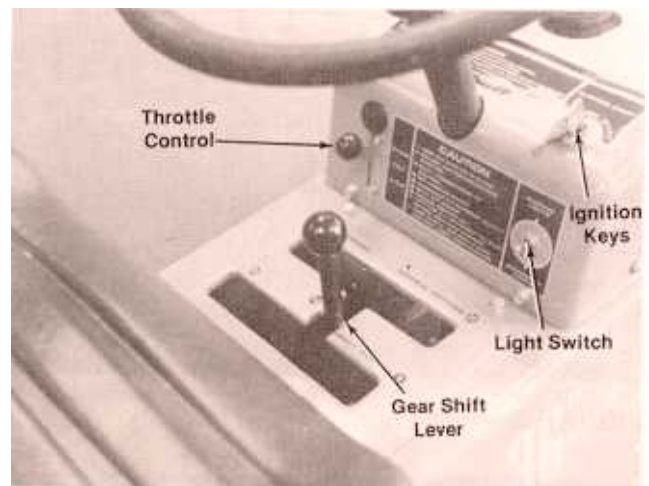

FIGURE 11.
a. Throttle Control. The throttle control is used to regulate the engine speed and choke the engine. The engine should be operated from $\frac{3}{4}$ to full throttle when operating the cutting deck. See figure 11.
b. Gear Shift Lever. The gear shift lever is used to shift into one of three **Forward Gears**, **NEUTRAL** or **REVERSE**. See figure 11.
c. Light Switch. Push the light switch up to turn on the lights. The lights will only operate when the engine is running. See figure 11.
See figure 11. Turn the key to the **START** position, to start the engine. When the engine is running, let the key return to the **ON** position. To stop the engine, turn the key to the left to the **OFF** position and remove it to prevent accidental starting.